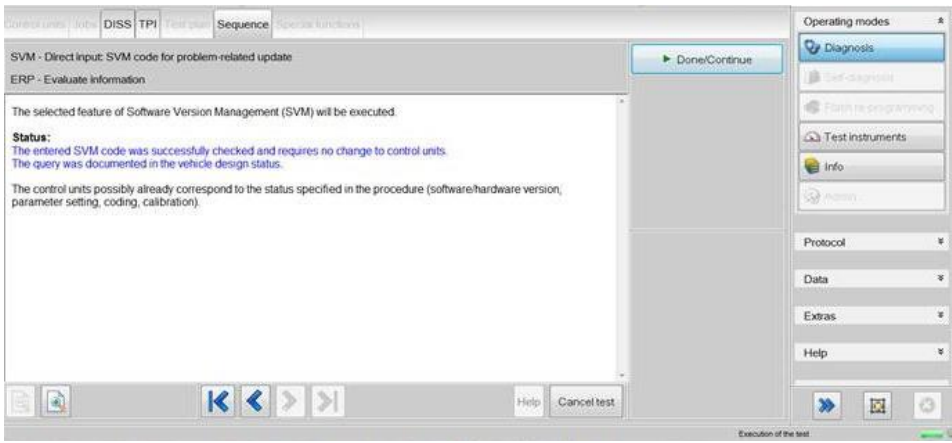

Figure 16
15. Once complete a summary screen will appear (Figure 16), this confirms successful completion. Follow any on screen prompts until program end